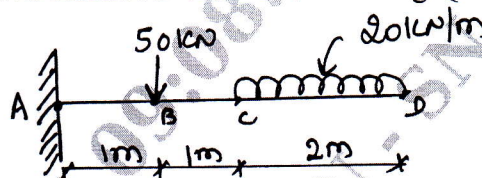

Fig.Q.7(b)
b. Draw the SFD and BMD for a cantilever beam shown in Fig.Q.7(b). (10 Marks)